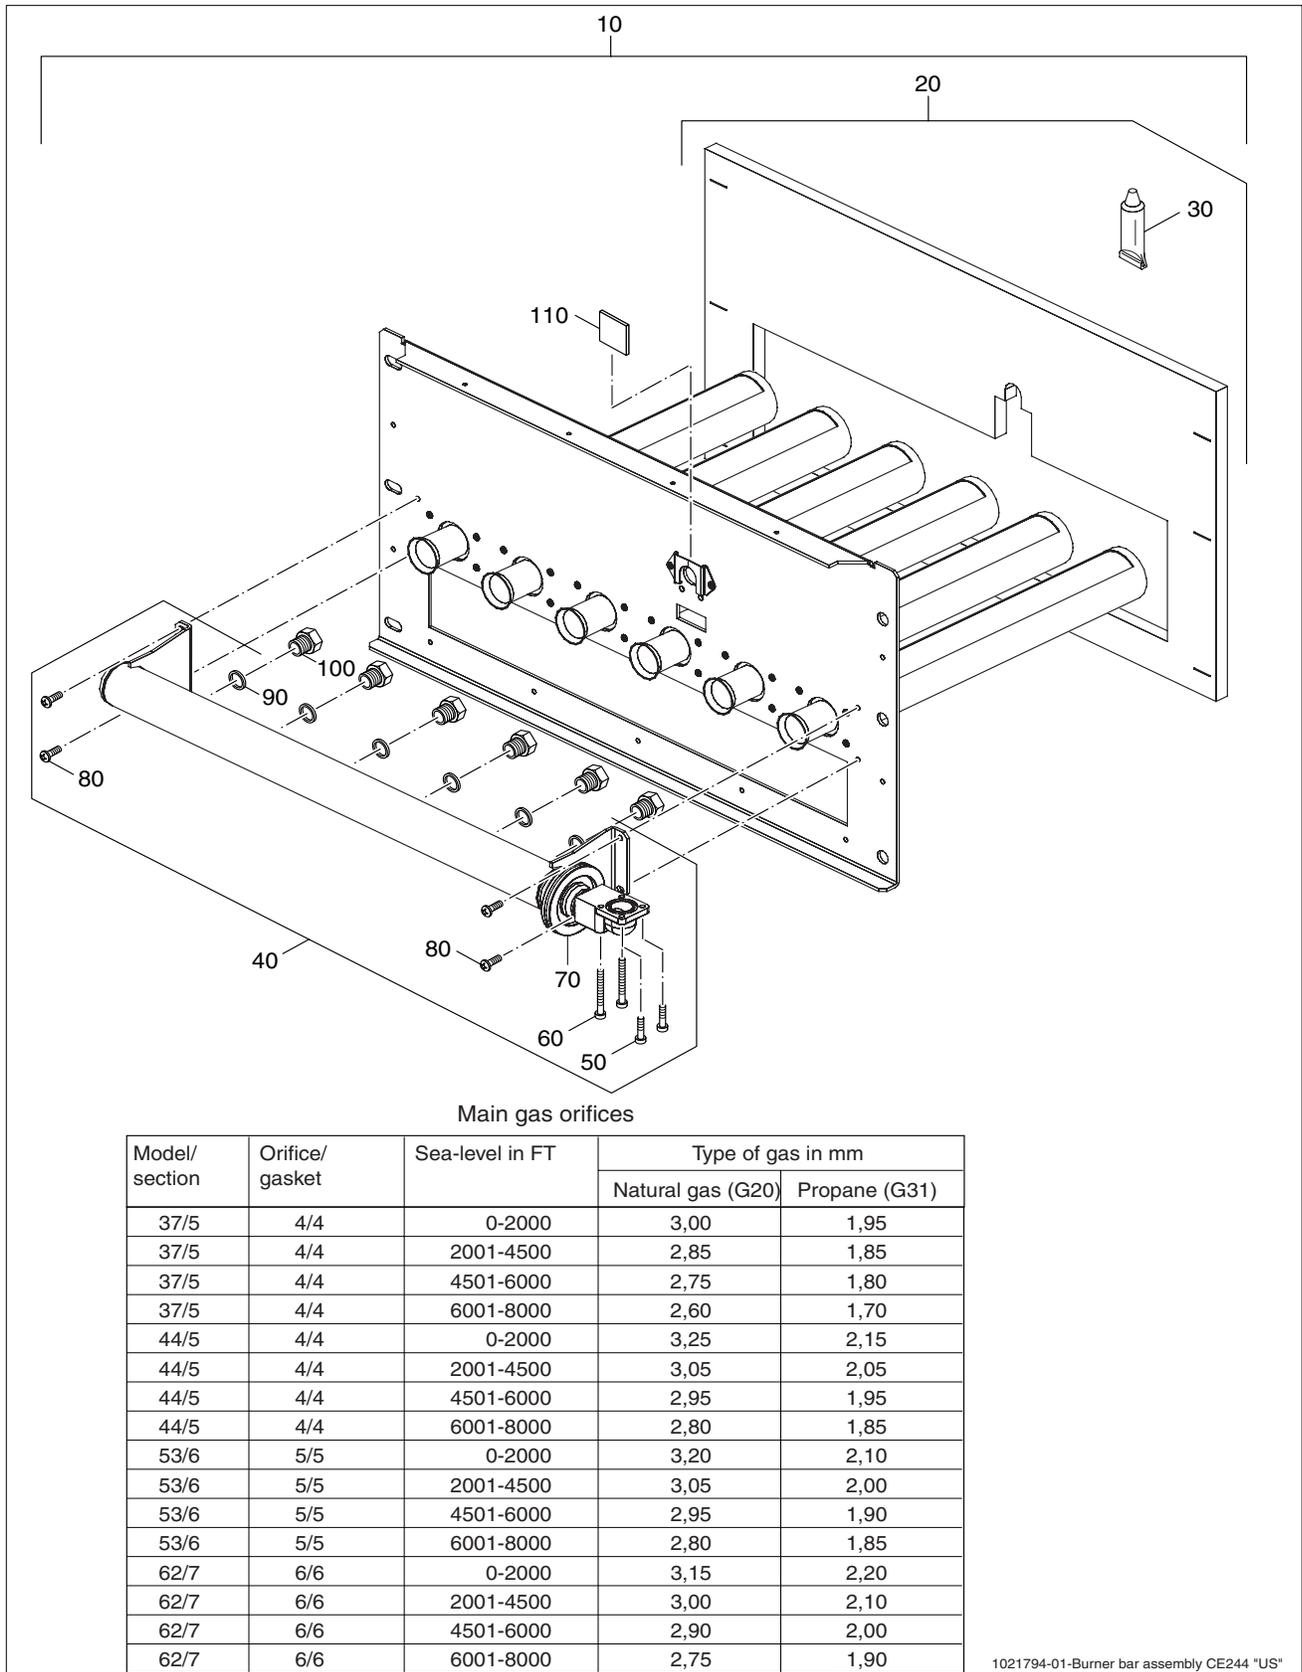

Fig. 47 Burner tray assembly
**Burner tray assembly (Fig. 47)**